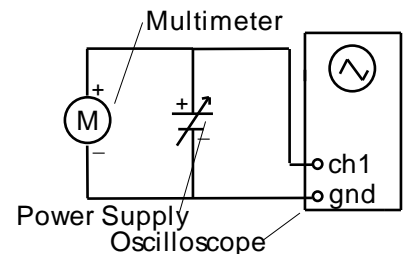

Figure 1
A multimeter is a good choice for measuring a steady voltage, such as that across the terminals of a power supply, but an oscilloscope can also be used, provided that great accuracy is not required. It is instructive to measure the terminal voltage of a power supply with both a multimeter and an oscilloscope and compare results as in Figure 1.
1. Set up the circuit shown in Figure 1. Make sure the power supply is initially set to zero volts (voltage knob fully counter-clockwise) and the current knob is turned fully clockwise. Turn on both the oscilloscope and the multimeter. Set up the multimeter to measure DC voltages. Select ranges on both the scope and multimeter for a maximum of approximately 10 to 20 volts. Set the scope to DC coupling so that DC levels can be observed. For at least four different DC voltage levels, measure the output of the power supply with both the multimeter and the oscilloscope.